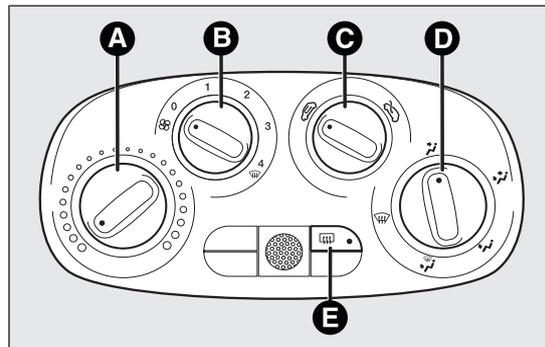

fig. 28
- A Air temperature knob (red = hot/blue = cold) fig. 28
- B Fan speed knob and climate control system activation/deactivation fig. 28. Press the knob to activate the climate control system; the LED on the knob switches on. This enables rapid cooling of the passenger compartment.
C Air recirculation knob fig. 28
D Air distribution knob fig. 28
E Heated rear window activation/deactivation button fig. 28.